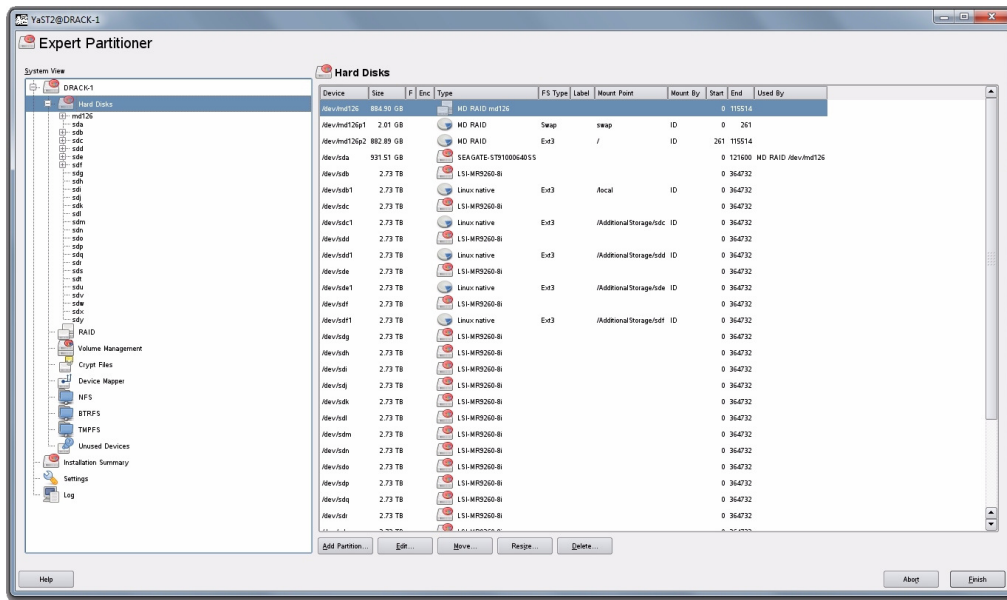

Figure 3-25 YaST2 – Drives Have Appeared
4. Verify that all of your disks have appeared under **Hard Disks** (Figure 3-25).